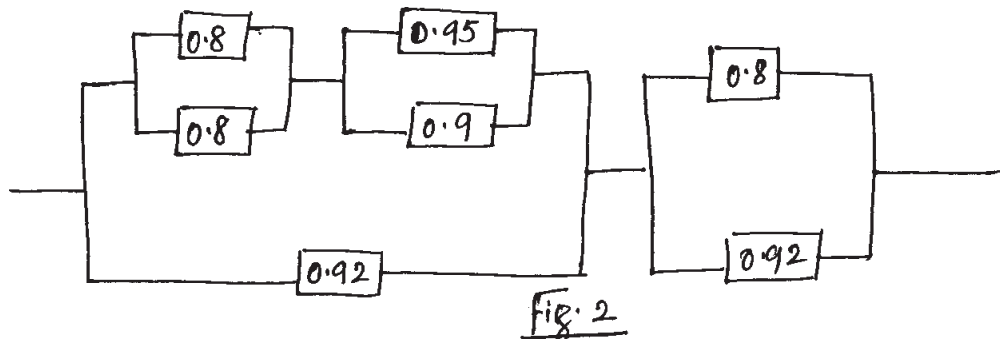

Fig. 2
- b)** Evaluate the reliability for system shown in figure 2. [10]